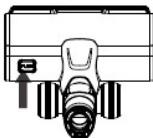

Figure 19
- (1) Turn off the power and remove the electro-brush.
- (2) Flip the brush over and twist the lock button with a coin to open the lock. (Figure 19)